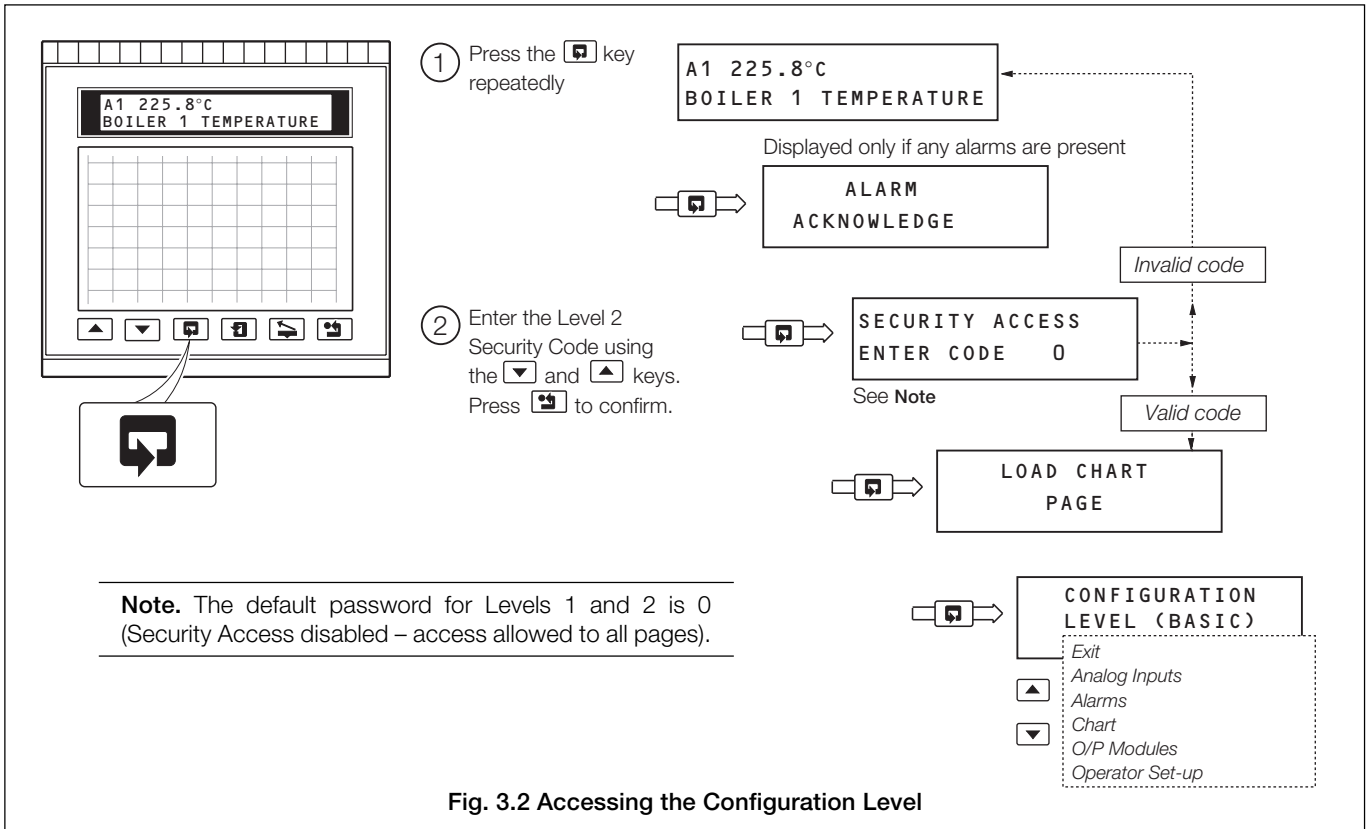

Fig. 3.2 Accessing the Configuration Level
3.1.1 Accessing the Configuration Level – Fig. 3.2